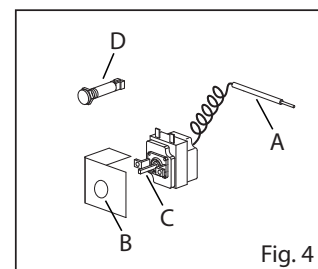

Fig. 4
- unscrew the pressure intake screw (Fig. 4);
- Remove the bulb from the tank (Fig. 4/A)
- Unscrew the thermostat from its support (Fig. 4/B) and remove it (Fig. 4/C)
- Install the new globe (Fig. 4/D)